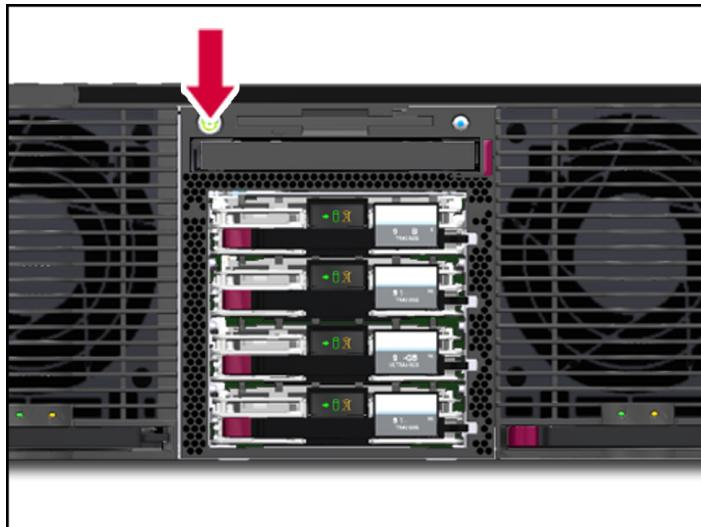

Figure 7-4: System Power LED switch
- The system power LED, as shown in Figure 7-4, should blink to indicate that the system is trying to power up. If the LED does not blink when the power button is pressed, there is no main power applied to the system power supplies.